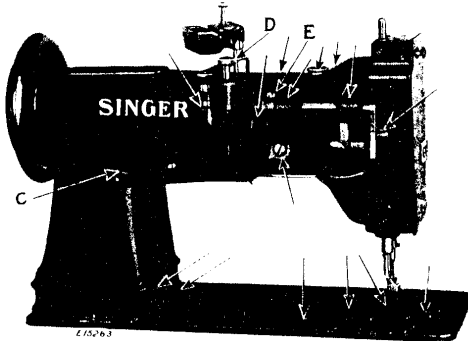
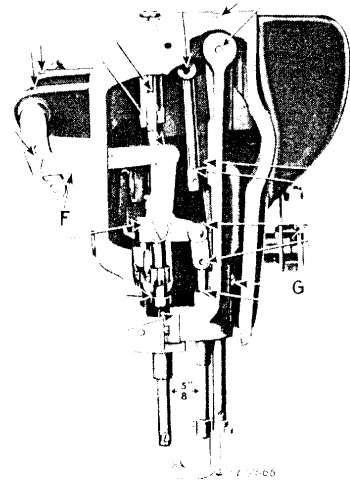

Fig. 3. Rear View of Machine Showing Oiling Points and Adjustments
Fig. 4. End View of Machine Showing Oiling Points Also Adjustments on the Machine
To increase the pressure, turn the thumb screw (D, Fig. 3) at the back of the machine, downwardly. To decrease the pressure, turn this thumb screw upwardly.
In case the needle bar is not correctly set, loosen the needle bar connecting stud pinch screw (G, Fig. 4) and place the needle bar in correct position as directed above, then retighten the screw (G).
The distance between the vibrating presser bar and lifting presser bar, after turning the feed regulating spindle head so that there is no feed movement of the needle bar, should be 5/8 inch as shown in Fig. 4.
If the distance between the vibrating presser bar and the lifting presser bar is more or less, insert a screwdriver in the hole at (C, Fig. 3) at the rear of the machine and loosen the clamp screw which holds the needle bar rock frame rock shaft. While this screw is loose, the needle bar frame can be moved forward or backward to the required distance. A piece of metal of the correct width may be used to determine the correct distance. When making this adjustment be sure to see that the feed regulating spindle head is set so that there is no feeding movement of the needle bar. When the adjustment has been made, securely tighten the clamp screw at C.
The height of lift of the pressers is adjustable by moving the link (F, Fig. 4) to any of the four holes in the rock shaft crank. The maximum lift is secured with the link in the bottom hole. The amount of lift of the vibrating and lifting presser feet should be regulated according to the thickness of material being sewn. The feet should lift just high enough to clear the material. As a rule, the vibrating and lifting pressers should lift an equal height, but some grades of work may require that they lift an unequal height. To change the relative lift of the presser feet, loosen the screw (E, Fig. 3) at the back of the machine and move the vibrating presser bar upward or downward as required, then securely tighten the screw (E).